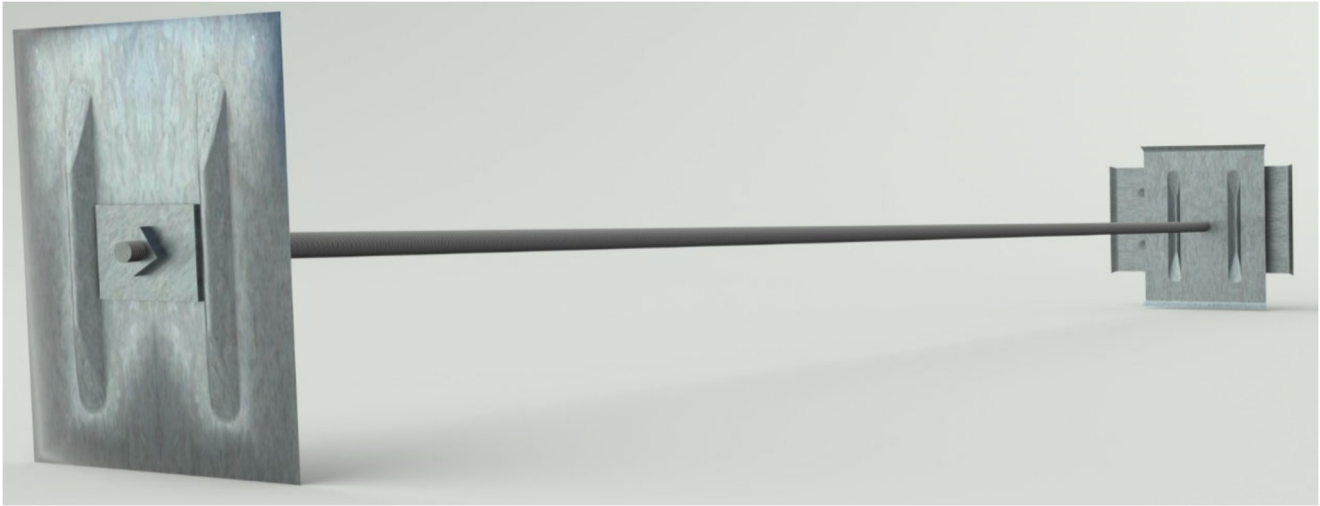

FIGURE 1—GRIP-TITE® WALL ANCHOR SYSTEM ASSEMBLY
**3.1 General:** Grip-Tite® Wall Anchor System consists of the following components described in Sections 3.2 to 3.7 and as illustrated in Figure 1.
2. Friction angle is denoted as  $\phi$ , as shown in Figure 1.